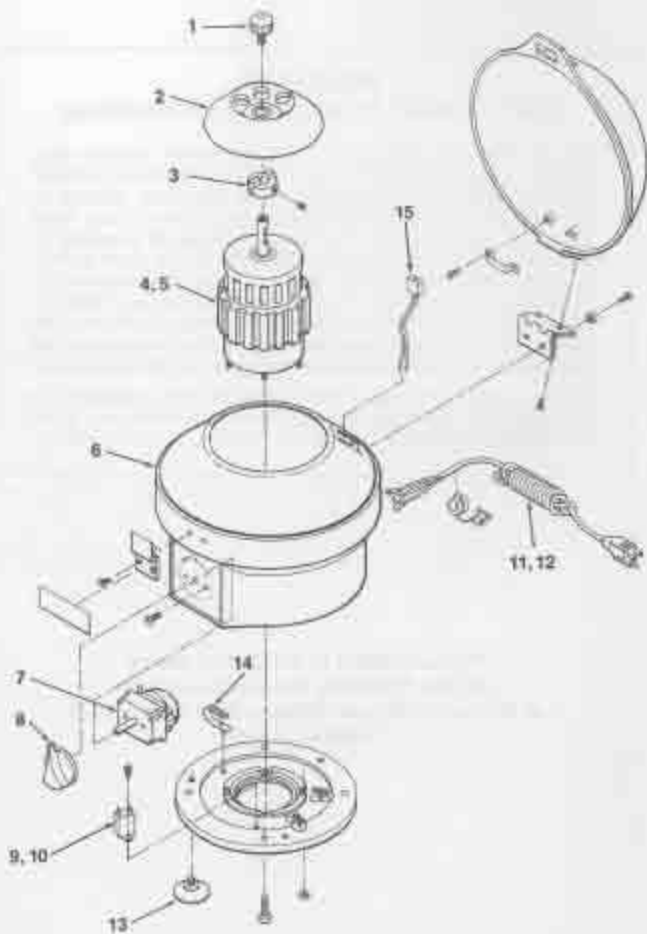

Figure 5-6. Compact II Centrifuge, Exploded View
• Centrifuge — See Item # in Figure 5-6